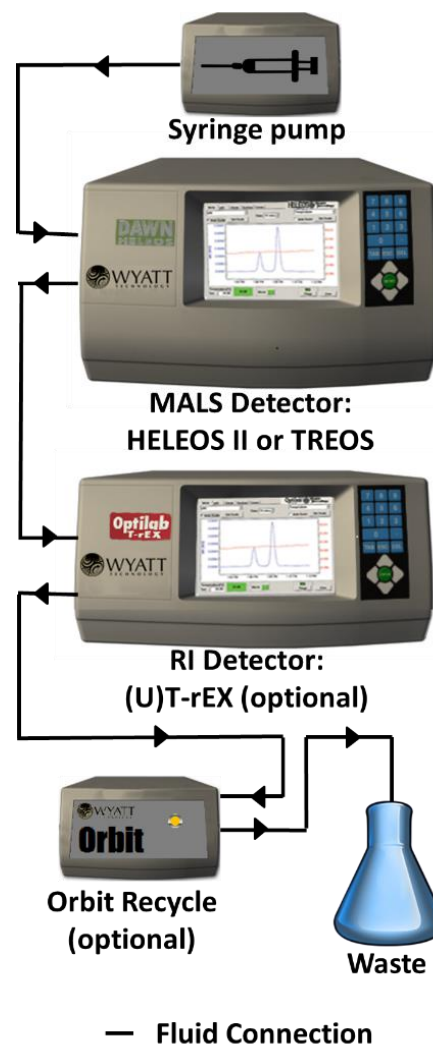

Figure 3. The flow path used to check the noise of the MALS instrument itself.
- a. Disconnect your MALS detector from the flow path. See Figure 3.